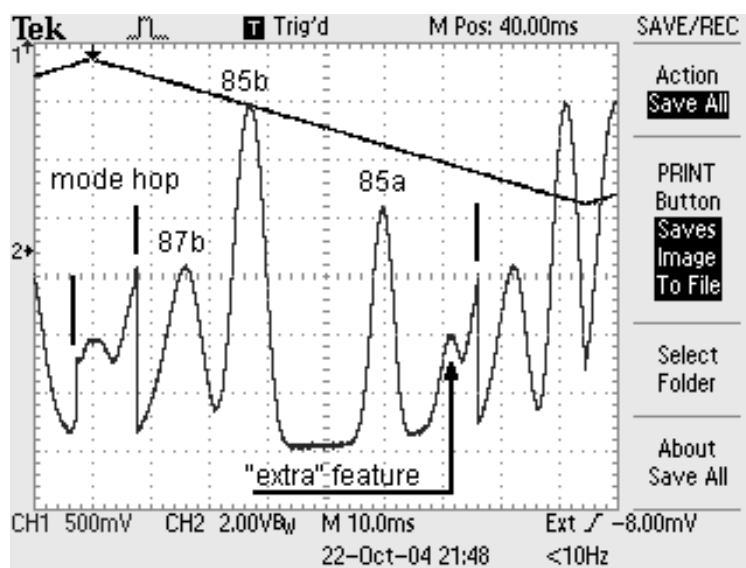

Figure 9: Scan showing first three absorption lines
- c) You might notice that the modes at the ends have a shorter and more erratic scan over the Rb absorption. You do not need to make an exact adjustment with the Side knob as the Piezo DC OFFSET voltage can be used to fine tune to the mode. With proper alignment and laser current adjustment you should be able to set a scan that covers the first three lines in the absorption spectrum (87b, 85b, and 85a as shown in Figure 9).